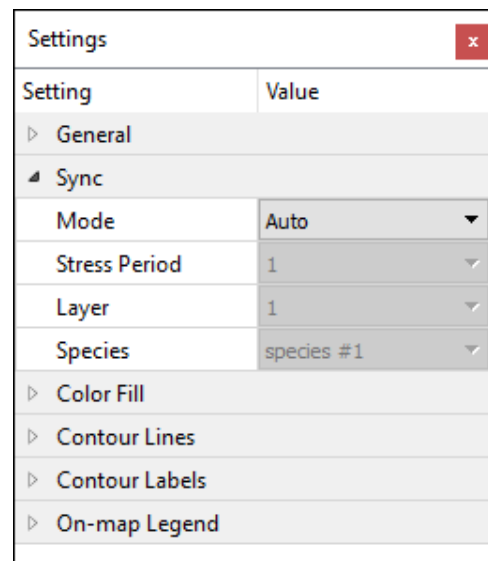

Figure 150. The Sync group of the Settings window for Contour Maps
2. **Sync** (Figure 150): The settings of this group control what data is displayed.